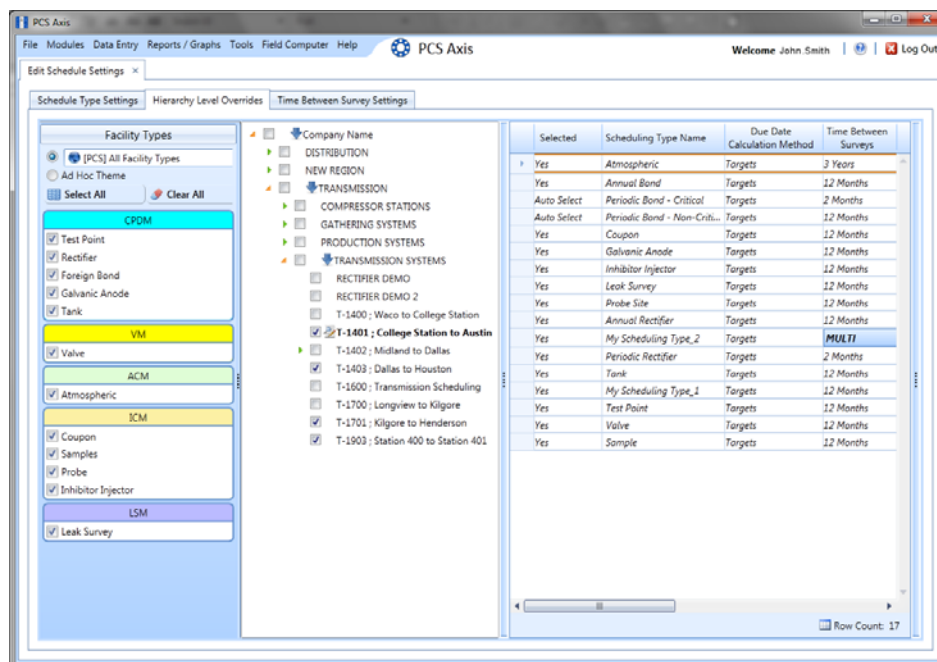

Figure 8-7. Hierarchy Level Overrides
- 2 Click **Data Entry > Edit Schedule Settings > Hierarchy Level Overrides** tab (Figure 8-7).